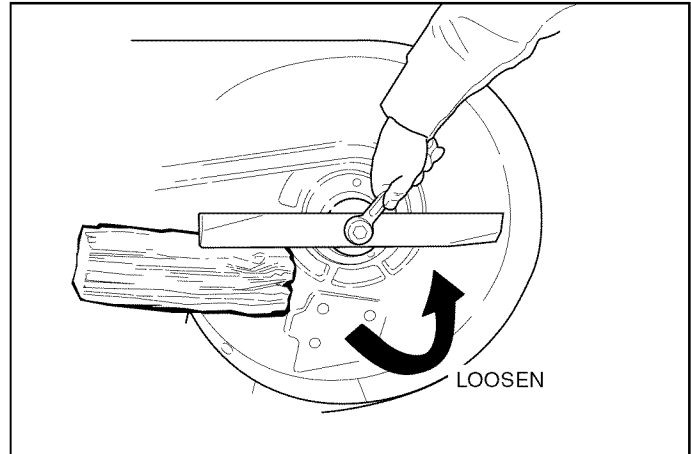

Figure 28. Blade Removal
2. See Figure 28. To remove blade for sharpening, use a block of wood to prevent blade rotation while loosening the capscrew.
3. Use a block of wood (B, Figure 28) to prevent blade rotation while loosening the capscrew.